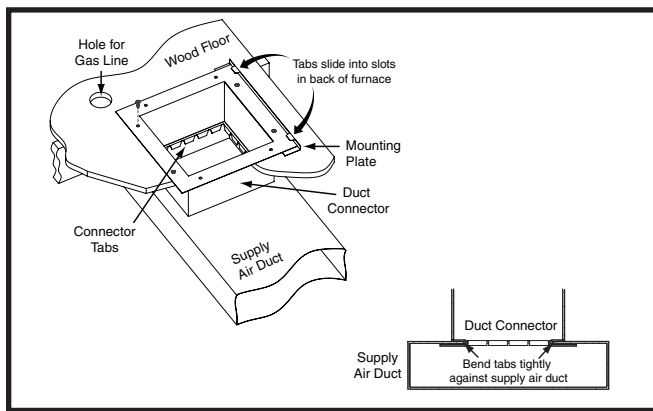

Figure 12. Finger Tabbed Duct Connector
2. Mark the cut-out area on the supply air duct by tracing around the connector tabs of the duct connector. See Figure 12.
5. Install the mounting plate (Figure 12) under the back side of the duct connector. Align the screw holes in both components.
7. Bend the connector tabs on the bottom of the duct connector upwards and as tight as possible against the supply air duct. See Figure 12.